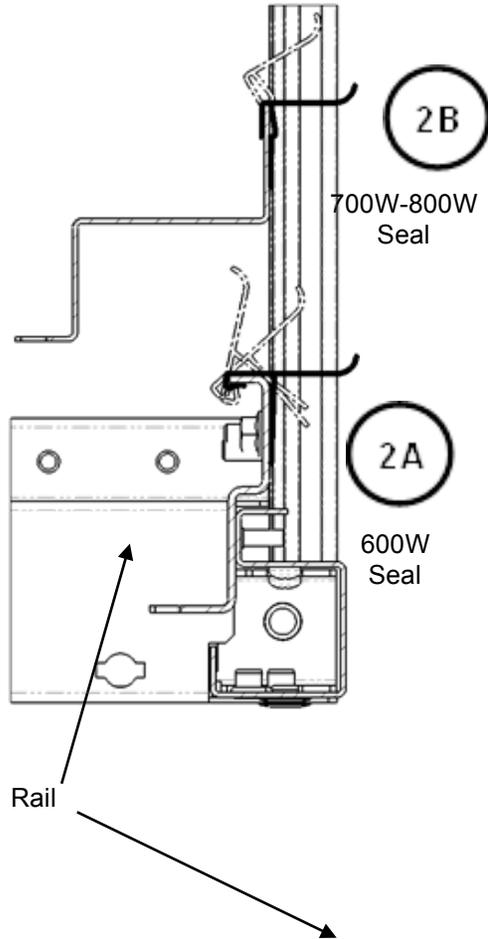

Fig. 2
2. Bring the rail seals inside the frame through side of the cabinet at inclined position as shown in Fig. 2